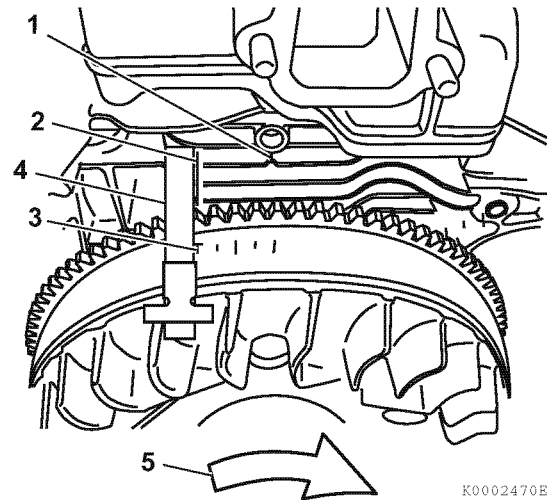

Figure 6-31
8. Carefully rotate the flywheel in a clockwise (5, **Figure 6-31**) direction to allow the piston to contact the intake valve. Measure the distance from the existing TDC mark (1, **Figure 6-31**) on the cooling fin to the TDC mark on the flywheel (3, **Figure 6-31**) (where the flywheel stopped).
10. With the piston in contact with the intake valve, use a straightedge (4, **Figure 6-31**) and scribe or fine point marker to transfer the position of the flywheel TDC mark (2, **Figure 6-31**) to the cooling fin.